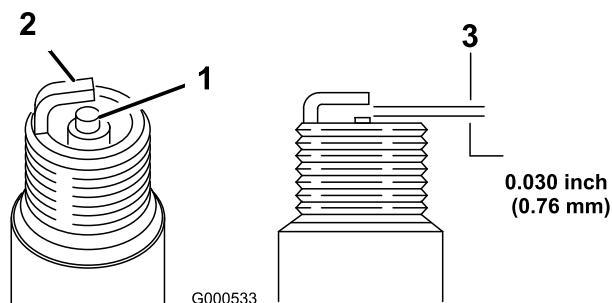

Figure 22
1. Inspect the spark plugs (Figure 22).
2. Check the gap between the center and side electrodes (Figure 22). Bend the side electrode if the gap is not correct.